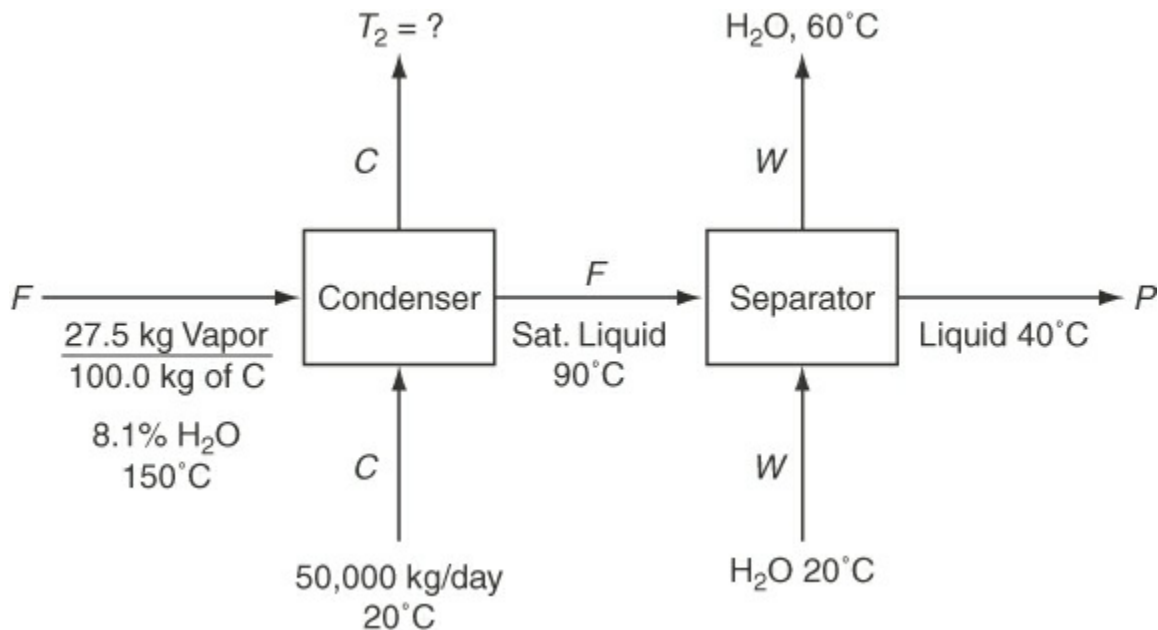

Figure P8.4.28
- *** 8.4.28 A process involving catalytic dehydrogenation in the presence of hydrogen is known as *hydroforming*. Toluene, benzene, and other aromatic materials can be economically produced from naphtha feedstocks in this way. After the toluene is separated from the other components, it is condensed and cooled in a process such as the one shown in Figure P8.4.28. For every 100 kg of *C* charged into the system, 27.5 kg of a vapor mixture of toluene and water (8.1% water) enter the condenser and are condensed by the *C* stream. Calculate (a) the temperature of the *C* stream after it leaves the condenser, and (b) the kilograms of cooling water required per hour.